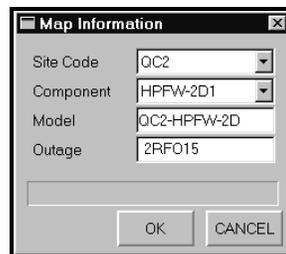

Figure 5-1. Map Information Window
4. Select the Map Info button. Fill in the fields as seen in Figure 5-1.